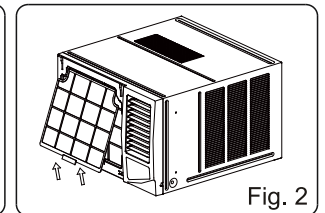

Fig. 2
3. Grip the tab on the end of the filter, lift it up, then pull it towards yourself, pull the filter out (see Fig. 2)
1. Insert the air filter into the frame's slot from upside to underside. (See Fig. 2)